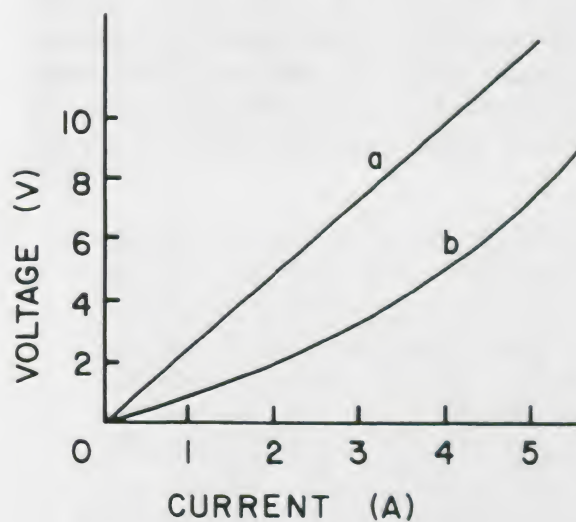

Figure 47.
7. Figure 47 shows voltage and current for two devices, *a* and *b*. Which one is ohmic? What is its resistance?